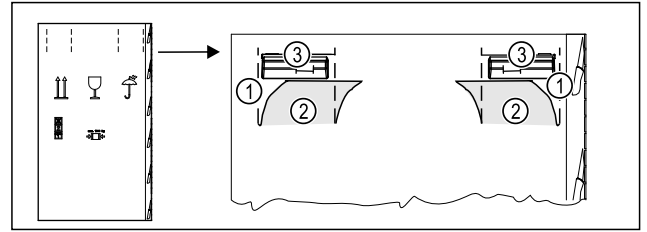

Fig. 6
- ▶ Press the packaging cardboard into the perforation Fig. 6 (1) at the top.
- ▶ Pull out any tabs Fig. 6 (2) that have been pushed in.
- ▶ Carrying handle Fig. 6 (3) visible on the right and left.
- ▶ Hold the appliance by the carrying handles Fig. 6 (3).